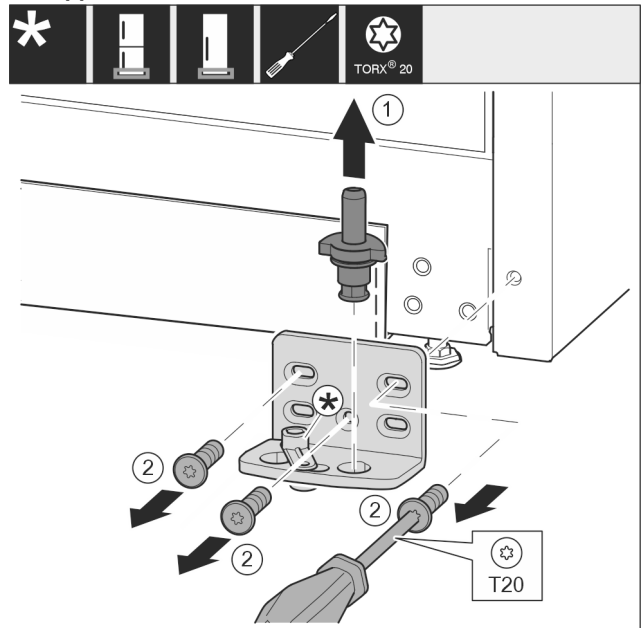

Fig. 9
- ▶ Lift the bearing pin completely upward and pull it out. Fig. 9 (1)
- ▶ Take out the screws with a T20 screwdriver and take off the bearing bracket. Fig. 9 (2)